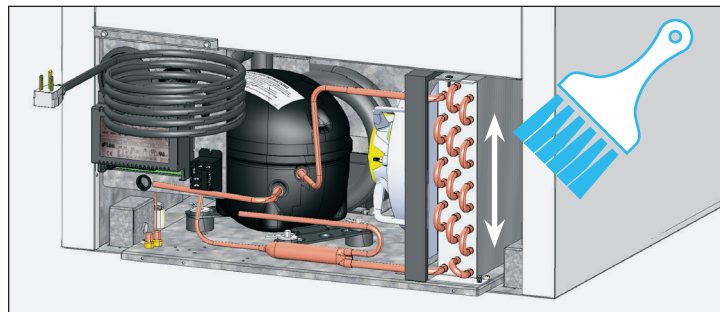

Fig. 2. Never brush across coil fins.
- With a stiff bristle brush, carefully clean accumulated dirt from the front condenser coil fins. See fig. 2.